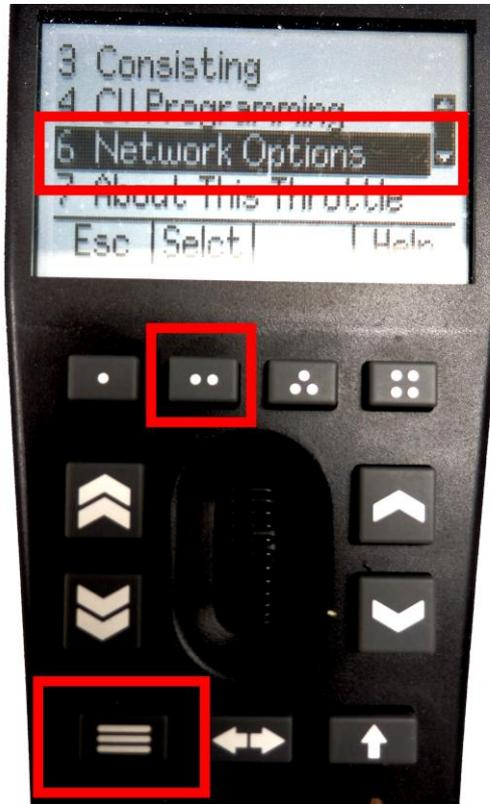

Figure 24 Selecting the Network Options menu on the UWT-100
- (2) Press the Menu button on your UWT, then use the up/down chevron buttons to choose Network Options, then press the Selct button [.] to open the Network menu as in Figure 24.